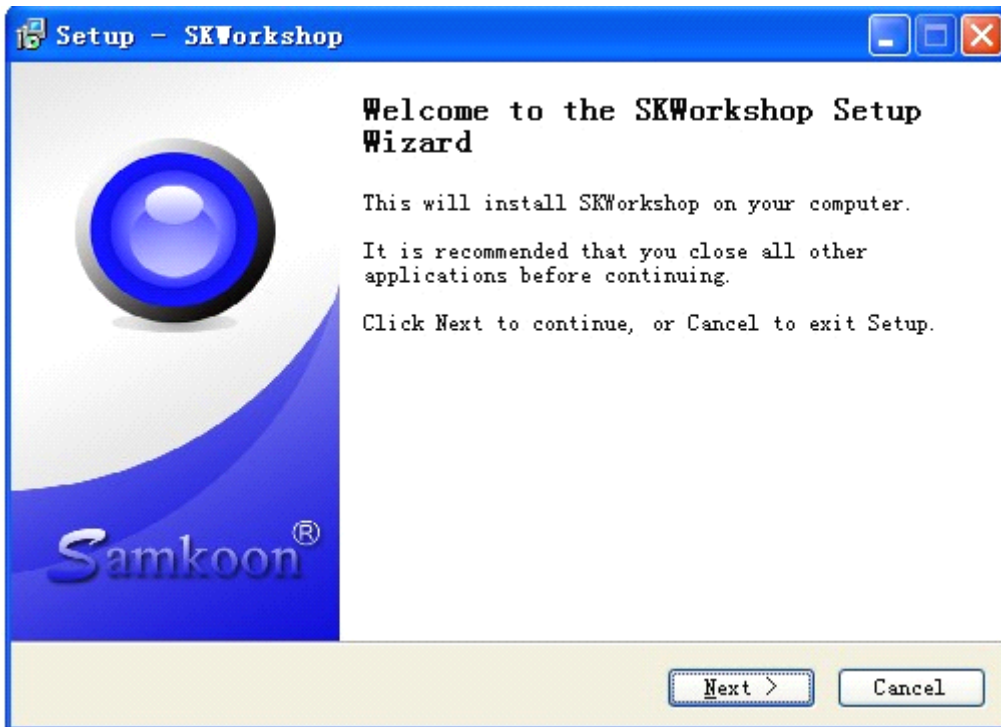

Figure 2-3: Installation window
- In the startup dialog, click Next to continue installation, or click Cancel to quit installation, as shown in Figure 2-3. Before installation, please confirm that SKWorkshop3.3 or earlier releases have been uninstalled, or normal use of SKWorkshop4.0.0 may be impacted.